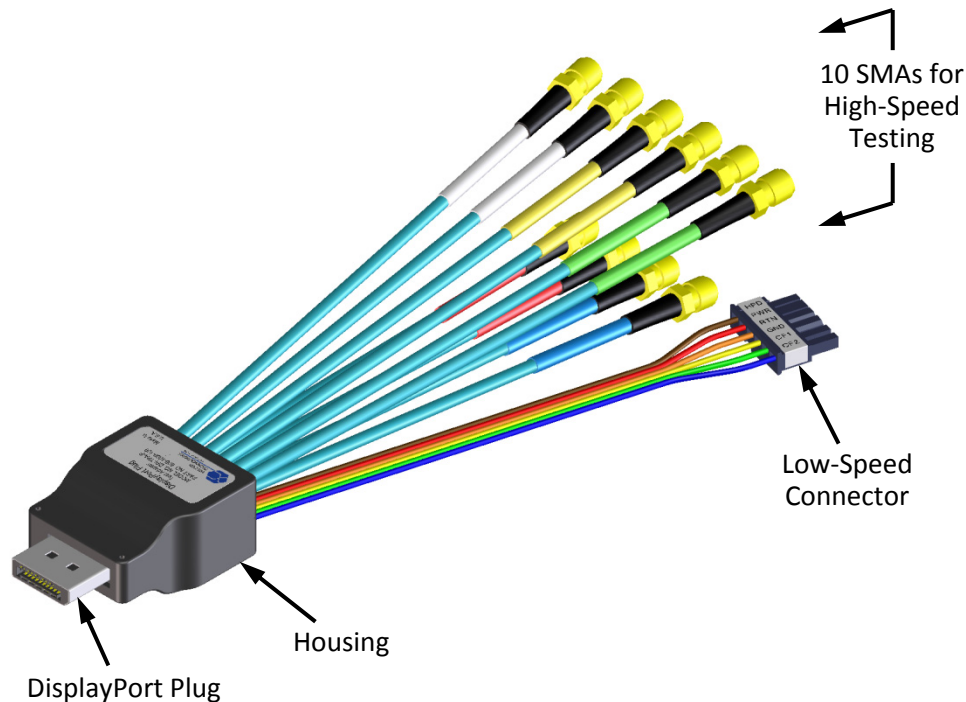

Figure 1. The DisplayPort Test Adapter (Plug)
This user's guide documents the DisplayPort Interoperability Test Adapter (DPI-TPA) and Calibration Module. The two test adapter types, shown in Figures 1 and 2, test DisplayPort Interface (DP) cables and devices against the VESA DisplayPort™ PHY Compliance Test Specification and the VESA DisplayPort™ Interoperability Guideline. The Interoperability allows access to dual mode operation (supporting HDMI). See the Aux Control User Manual, 910-0015-000, for more information. The Calibration Module, shown on Page 13, is used to zero-out test adapter attributes (using SOLT, with either the 1X-THRU or the 2X-THRU).